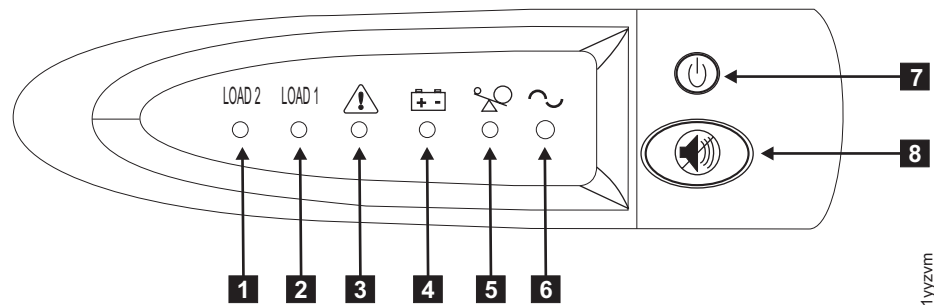

Figure 17. 2145 UPS-1U front-panel assembly
8. Press and hold the on/off button (**7** in Figure 17 on page 23) for approximately five seconds. You might need a pointed device, such as a